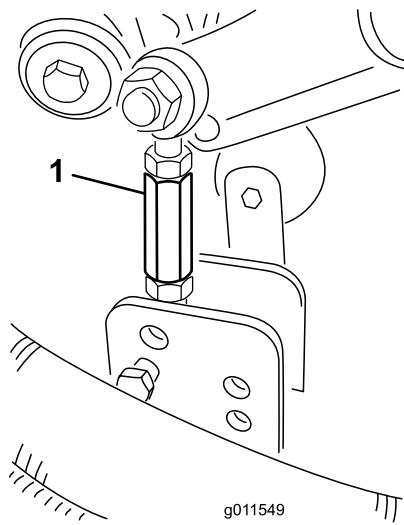
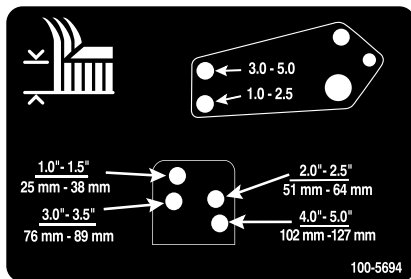

Figure 24
Figure 25
- Remove the hairpin cotters and clevis pins securing the damper links to the cutting unit brackets (Figure 24). Align the damper link holes with the selected height-of-cut bracket holes in the cutting unit frame (Figure 25), insert the clevis pins, and install the hairpin cotters.